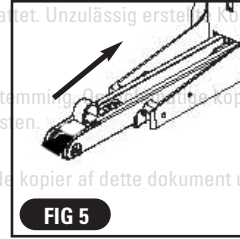

FIG 5
- C. Insert 2 sticks of staples into the channel and gently release the pusher against the staples. (Fig 5)